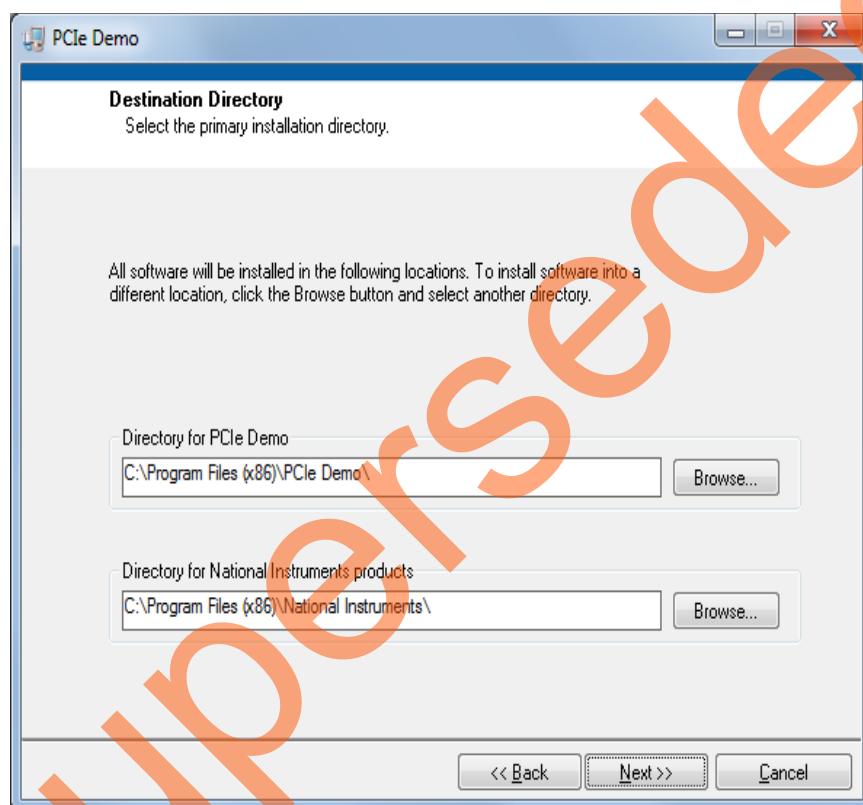

Figure 14 • GUI Installation
3. Double-click the **setup.exe** in the provided GUI installation (**PCIe_Demo_GUI_Installer/setup.exe**). Apply default options as shown in Figure 14.